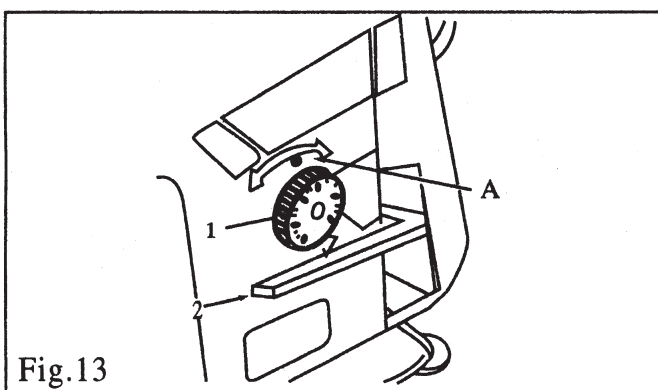

Fig.13
Thread the bobbin winder and wind the bobbin thread onto the bobbin illustrated in the figure 13.
11.ADJUSTING THE STITCH LENGTH(FIG.13)